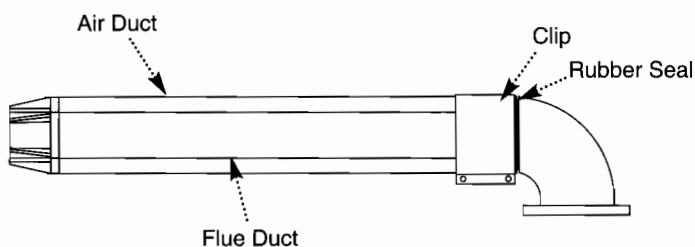

Fig. 27
12. Insert the flue duct into the air duct and engage it in the terminal (Fig. 27).
14. Align the clip over the rubber seal. For neatness the screws on the clip flange should be below the air duct if possible, providing they remain accessible (Fig. 27). Secure the clip.